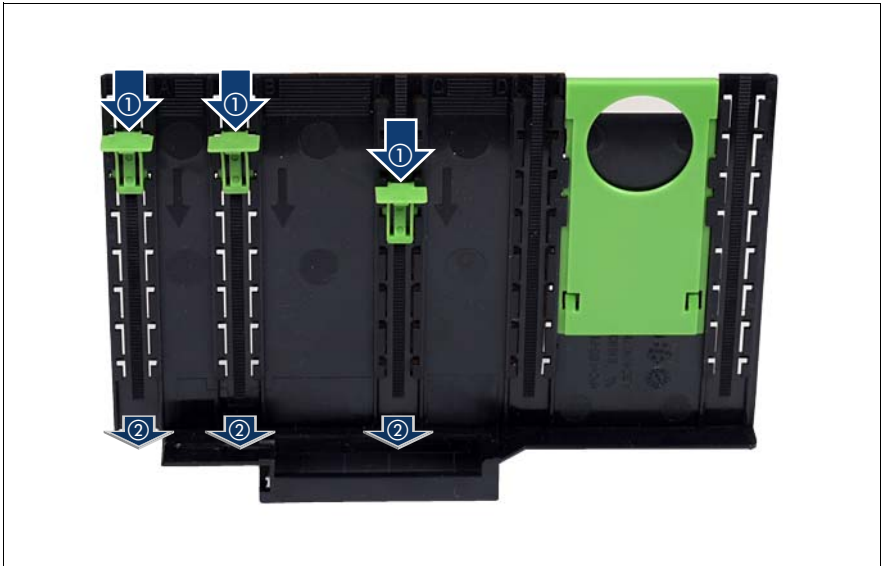

Figure 25: Removing engaging hooks from the removal tool
- Push the engaging hooks down until they disengage from the removal tool (see figure 25 on page 105), and keep them in a safe place.